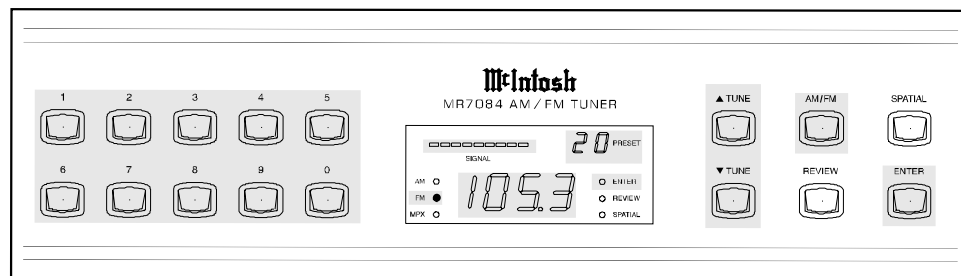

Figure 1
The MR7084 can be turned on manually with the front panel Power switch. When the Power Control cable is connected to a McIntosh Control Center or Preamplifier, the MR7084 Power switch can be left on, and the tuner will turn on whenever the other component turns on. Refer to figures 1 and 2.
1. Select the FM broadcast band. Refer to figure 1.